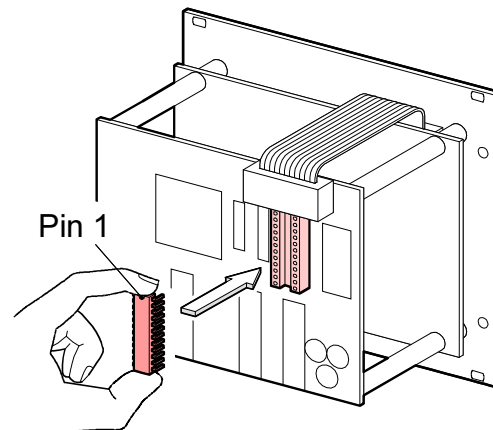

Fig. 2
6. Install the EPROM (correct polarity: fig. 2).